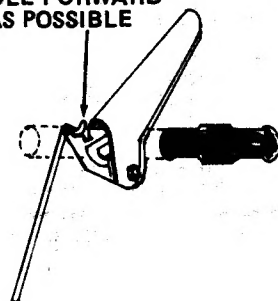

FIGURE 17
- Position the clutch handle so that it is all the way up. See Figure 17. Tighten the tractor clutch rod in the rod adapter with the setscrew. With handle down, clutch lever should come within 1/16" of top of slot in frame. Adjust as required. See Figure 8 of owners section.